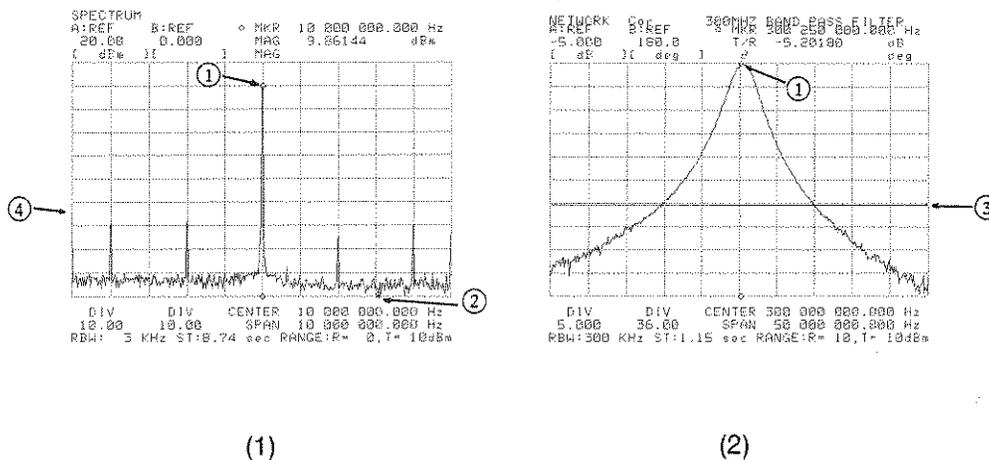

Figure 4-13. MKR→MAX, MIN, LCURS→AVRG and NEXT PEAK
To move the marker or line cursor to the position with the maximum value, press the 'MKR \rightarrow MAX' softkey or the 'LCURS \rightarrow MAX' softkey, respectively. If this softkey is pressed in the o & * markers mode (active oMKR) the o marker will move to point 1 as shown in Figure 4-13.
To move the marker or line cursor to the position with the minimum value, press the 'MKR→MIN' softkey or the 'LCURS→MIN' softkey, respectively. If this softkey is pressed in the **o** & ***** markers mode (active ***MKR**), the ***** marker will move to point 2 as shown in Figure 4-13, (1).
To move the line cursor to the position with the average value for the measurement data, press the 'LCURS→AVRG' softkey. If this softkey is pressed in the **o** marker & Line Cursor mode, the line cursor will move to position 3 as shown in Figure 4-13, (2).
To move the marker to the next lower peak referenced to the current peak, press the 'NEXT PEAK' softkey. If this softkey is pressed after the 'MKR→MAX' softkey in the **o** & ***** markers mode (active **oMKR**), the **o** marker will move to point 4 as shown Figure 4-13, (1).